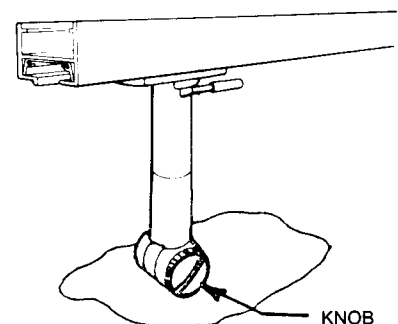

FIG. 2
3. To attach FITTING, insert into LYTESPAN TRACK. Turn LEVER 90° while pushing upward on fitting, to make mechanical and electrical connection. See Fig. 2.